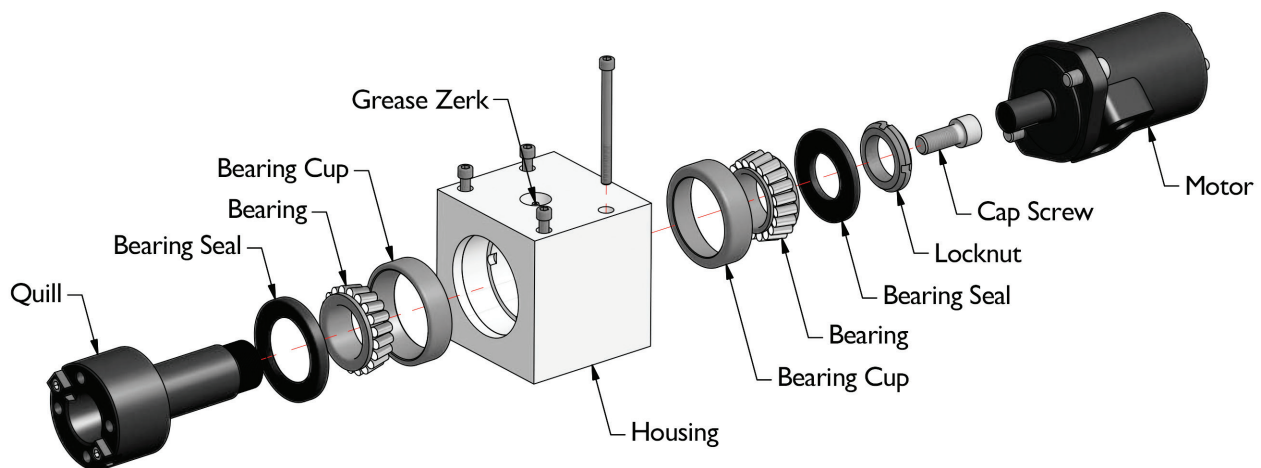

Figure 11 - Mill Head Assembly Maintenance
2. Make sure the spindle turns smoothly. If the mill head requires maintenance or cleaning, refer to Figure 11 for mill head assembly details. Inspect all components for excessive wear or damage, Clean the mill head bores. Apply a light coat of grease to all housing bore surfaces. Apply anti-seize lubricant to screw threads. Assemble the mill head and attach to the slide assembly.